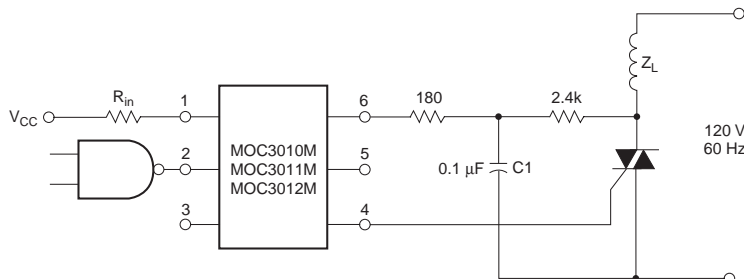

**Figure 5. Static dv/dt Test Circuit**
2. This is static dv/dt. See Figure 5 for test circuit. Commutating dv/dt is a function of the load-driving thyristor(s) only.
**Fig. 5 dv/dt vs. Temperature**